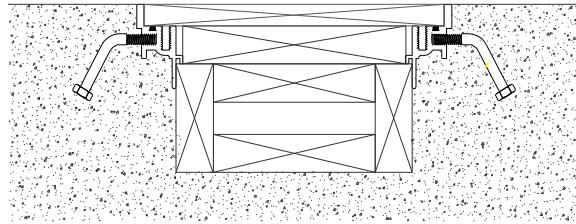

Figure 6
STEP 10. Pour the concrete in accordance with standard industry practice and all applicable requirements, see Figure 6. Clean away any excess